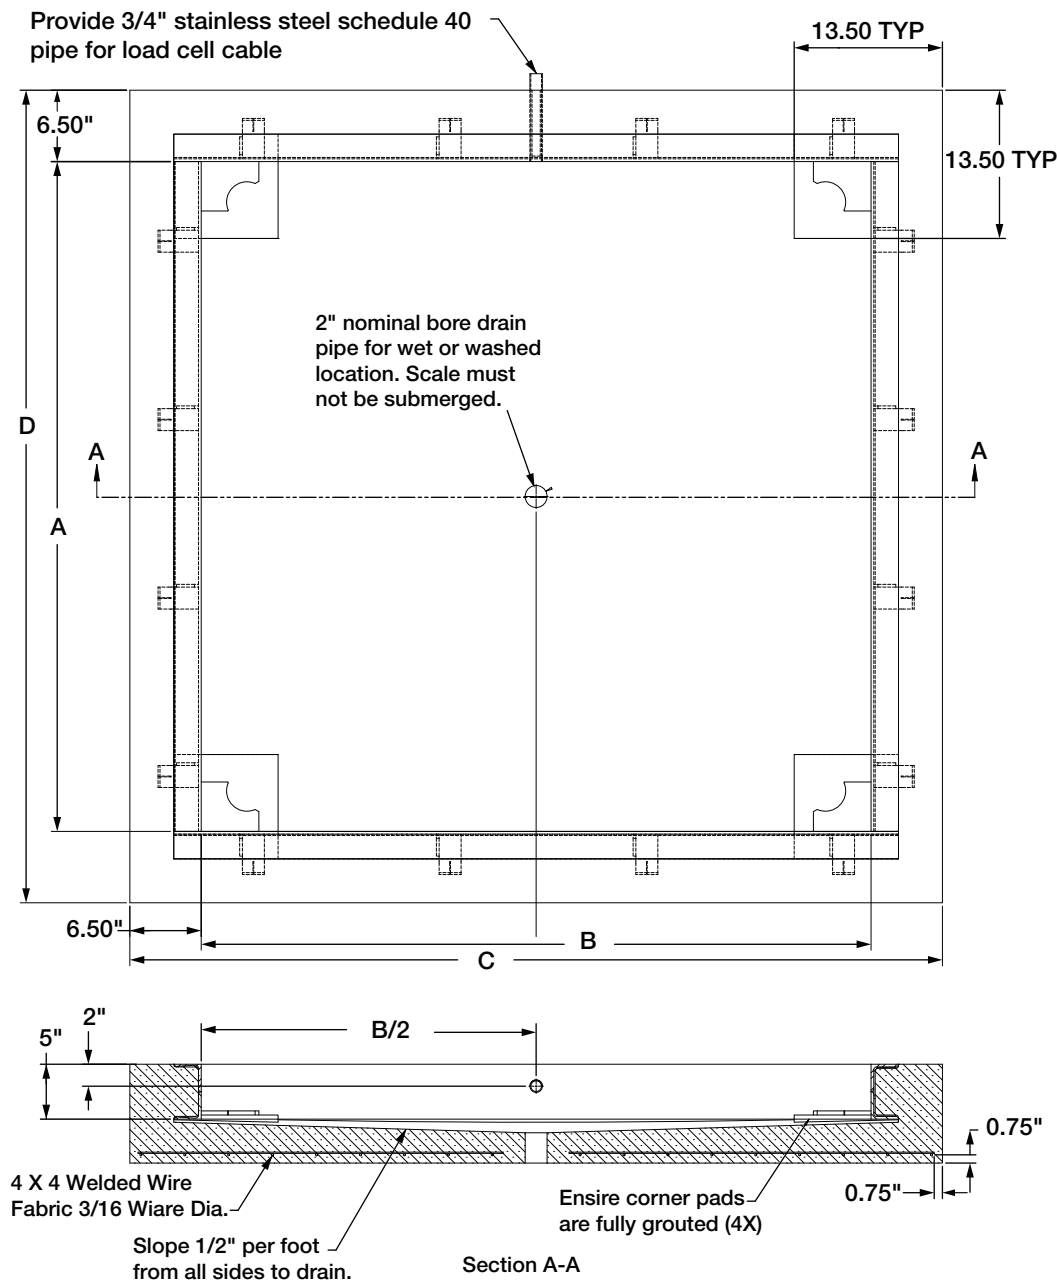

Figure 2-1. Example Pit Installation Drawing
- The following reference numbers apply to Figure 2-1 on page 7
Figure 2-1 is for reference only. This drawing is included as an example of a typical pit. Do not use this drawing for construction purposes.